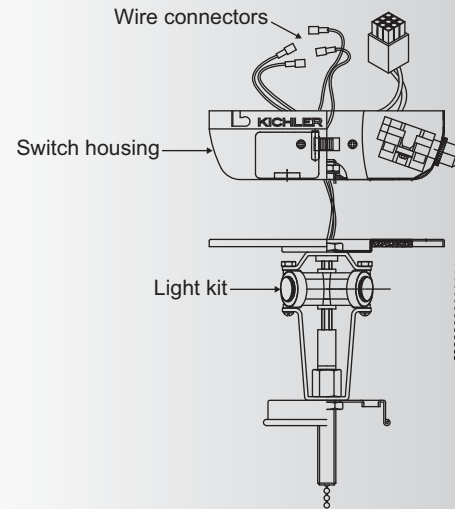

Fig. 18
1. Disconnect the square wire connectors and take apart the black and white wires from light kit and switch housing. (Fig. 18)